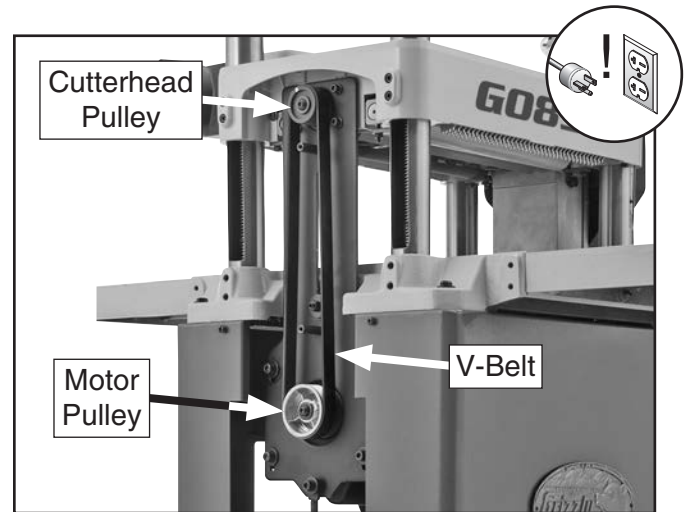

Figure 36. Belt cover and side panel removed to expose V-belt and pulleys.
2. Remove side panel and belt cover from left side of machine to expose belt and pulleys, as shown in **Figure 36**.